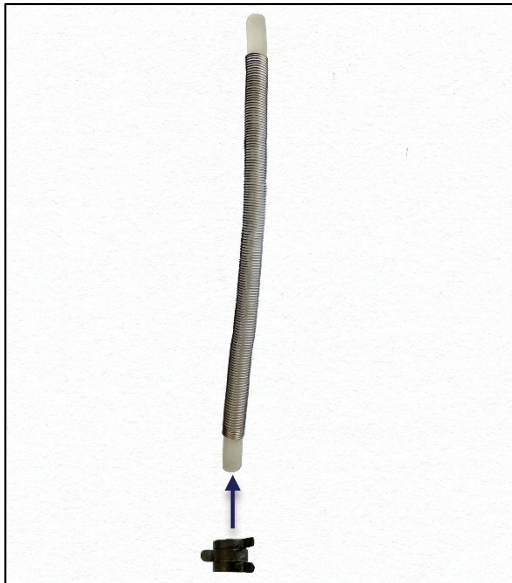

Fig. 6
4. Slide tension clamp onto tube & spring assembly beneath spring (Fig 6.)